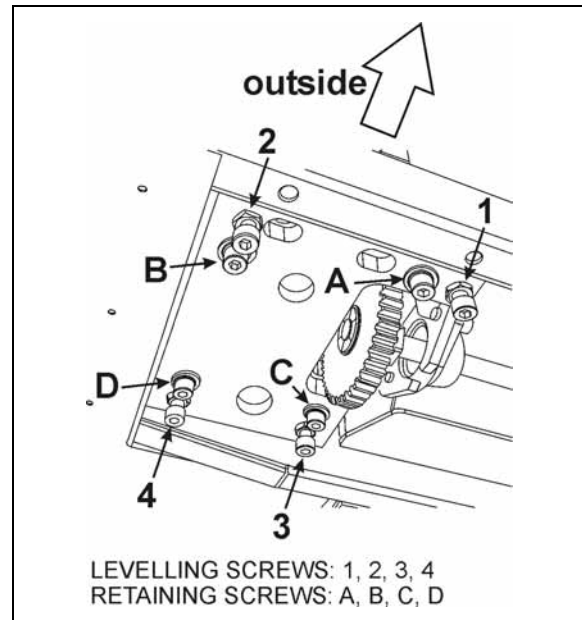

FIGURE 22 : SLIDE-OUT LEVELING
4. From the mechanism access panel, remove the retaining screws A, B, C & D (see figure 22).
leveling screws 1, 2, 3, 4 (figure 22). When proper level is attained, the retaining screws A, B, C & D maintain the support plate seated on the leveling screws. Also, the retaining screws prevent the slide-out from tipping inside the vehicle when it is retracted.
The slide-out is slightly tilted. When retracting, the upper "in limit" stoppers touch first the vehicle structure, followed by the lower "in limit" stoppers. Tilt adjustment is done by changing the linear bearing support plate inclination using the leveling screws 1 & 2 as pivot and 3 to adjust the angle (figure 22).
2. From under the support plate, remove the acetal plastic block mounting screws (see the oblong holes on figure 22).